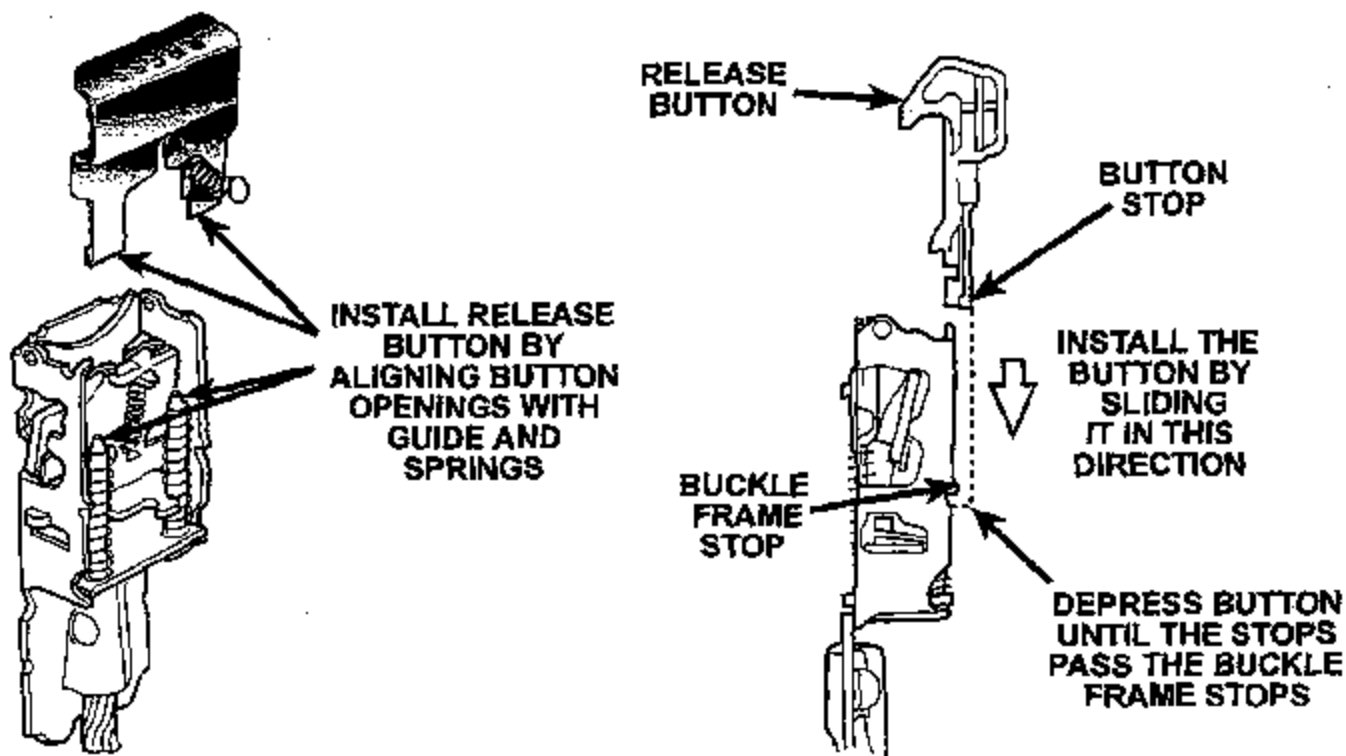

Figure 9
14. Install the release button by sliding the button over the guides and springs until the button stops pass the buckle frame stops (Figure 9).